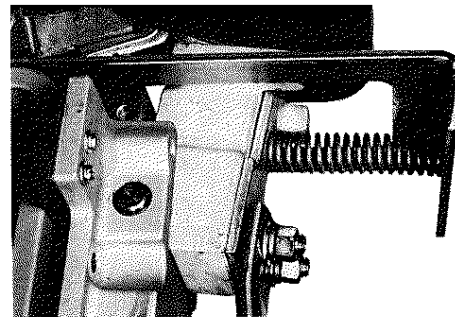

Figure 6
- Slide out the contact arm pin (24) after removing the hex head nut, lockwasher and set screw (26).
- Remove the contact arm assembly (22).
- Remove the magnet frame (38) from the contactor by removing hex head nuts (5) and lockwashers (8).
- Remove the silicon bronze hex head cap screw (32) on the front of the magnet core and remove the lockwasher (13), core cap spacer (34), core cap (35) and coil (36).
- Install the new coil using the core cap, core cap spacer and lockwasher and tighten the silicon bronze hex head screw. Note that the steel core cap, which is thicker than the non-magnetic phospher bronze spacer, must be installed against the coil. (See Exploded View). Check that the spring washer (37) is so positioned that the outside edge is against the coil (36) and not against the magnet frame.
- Replace the auxiliary arm spring retainer and spring using lockwashers and hex head screws. Check that the auxiliary arm spring is properly seated between the auxiliary arm spring retainer and the auxiliary arm (Fig. 6).
2. Remove the auxiliary arm spring retainer (16) by removing hex head screws and lockwashers.
3. Remove the auxiliary arm spring (15) from the auxiliary arm.
5. Replace the auxiliary arm spring retainer using hex head screws and lockwashers. Check that the auxiliary arm spring is properly seated between the auxiliary arm spring retainer and the auxiliary arm (Fig. 6).